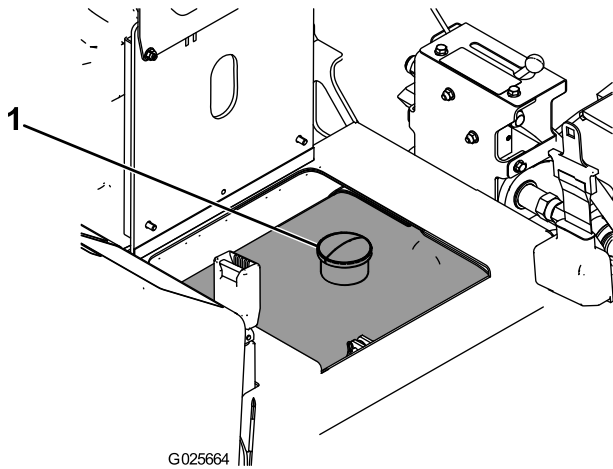

Figure 9
3. Remove the fuel tank cap (Figure 9).